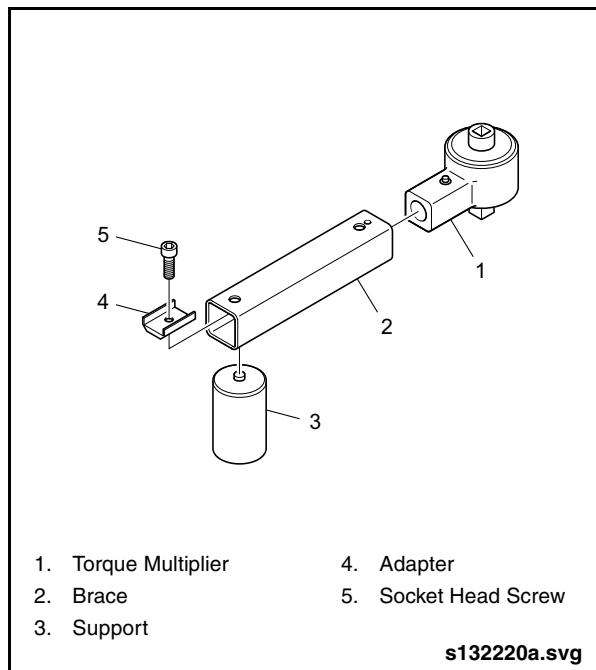

Fig. 2-56: Special Tool Assembly
- a. Attach Support (Item 86 from Special Tools List) with Socket Head Screw (Item 66 from Special Tools List) and Adapter (Item 104 from Special Tools List) to the Brace (Item 57 from Special Tools List). See "Fig. 2-56: Special Tool Assembly" on page 51.